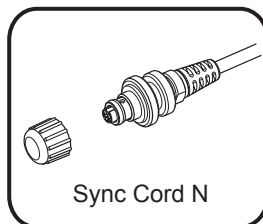

Fig. 6
- Whenever a sync cord is not connected to a camera, housing and/or strobe, protect the ends of the cord and bulkhead connectors with their plastic protective caps. (Fig. 6)